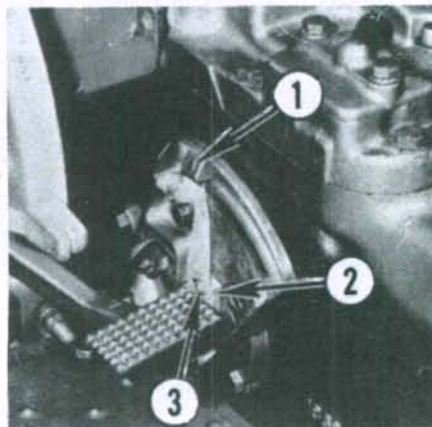

Fig. 264—View of response control showing points of adjustment. Refer to text.
To adjust response control, first remove outer cover from response control side cover. Loosen retaining screw (3—Fig. 264) and position response control lever 6 mm (1/4 inch) from rear end (slow position) of quadrant. Rotate inner lever (2) until internal cam contacts slide valve lever on the pump, then tighten retaining screw.